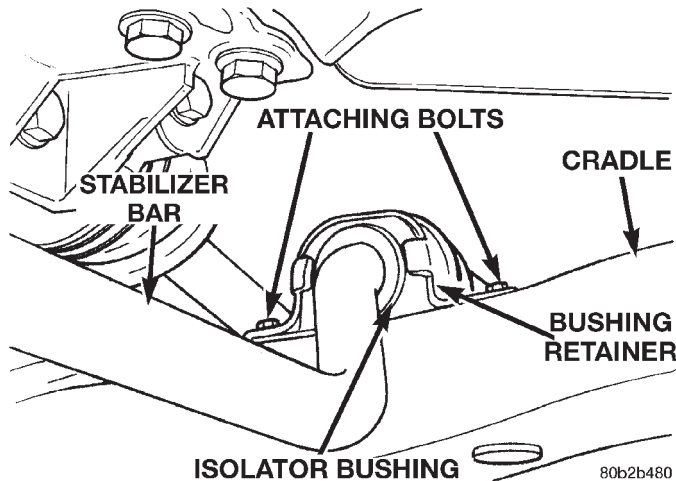
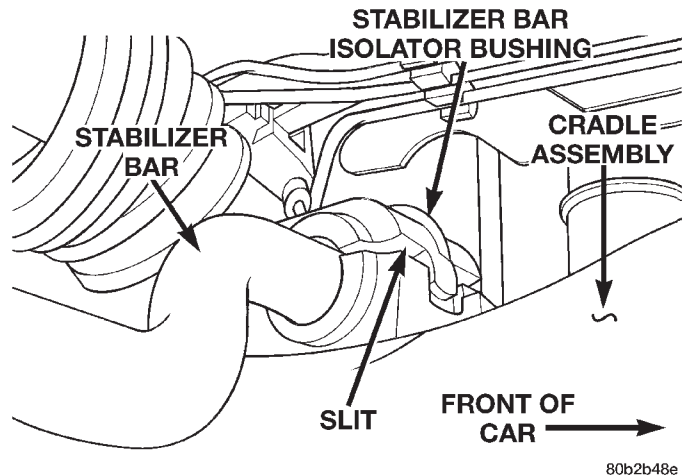

**Fig. 6 Stabilizer Bar Isolator Bushing Attachment To Cradle**
**Fig. 8 Stabilizer Bar Isolator Bushing**
(1) Raise vehicle on jack stands or centered on a frame contact type hoist. See Hoisting in the Lubrication and Maintenance section of this manual for the required lifting procedure to be used for this vehicle.
(2) Remove the 2 bolts attaching each of the 2 stabilizer bushing retainers and bushings to the cradle assembly (Fig. 6).
(3) Remove the stabilizer bar isolator bushing retainers from the isolator bushings.
(4) Inspect for broken or distorted retainers and bushings. If bushing replacement is required, the bushing can be removed by opening the slit in the bushing and removing the bushing from around stabilizer bar. **The stabilizer bar to cradle assembly bushings must be positioned on the stabilizer**
(1) Install bushings onto stabilizer bar with slits facing forward and flat side facing downward. **The stabilizer bar to cradle assembly bushings must be positioned on the stabilizer bar so the slit in the bushing is positioned toward front of vehicle (Fig. 8).**
(2) Install the isolator bushing retainers back onto the stabilizer bar isolator bushings.
(3) Align the stabilizer bar bushing retainers with the mounting holes in the cradle assembly (Fig. 6).